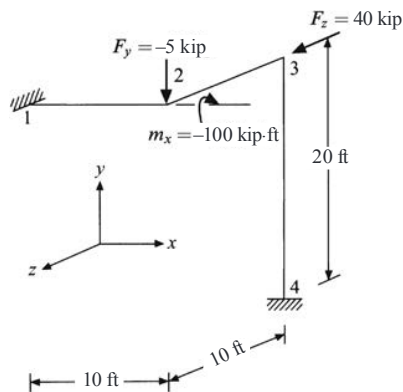

Figure P5-58
5.58-5.59 Determine the displacements and reactions for the space frames shown in Figures P5-58 and P5-59. Let  $I_x = 100 \text{ in}^4$ ,  $I_y = 200 \text{ in}^4$ ,  $I_z = 1000 \text{ in}^4$ ,  $E = 30,000 \text{ ksi}$ ,  $G = 10,000 \text{ ksi}$ , and  $A = 100 \text{ in}^2$  for both frames.